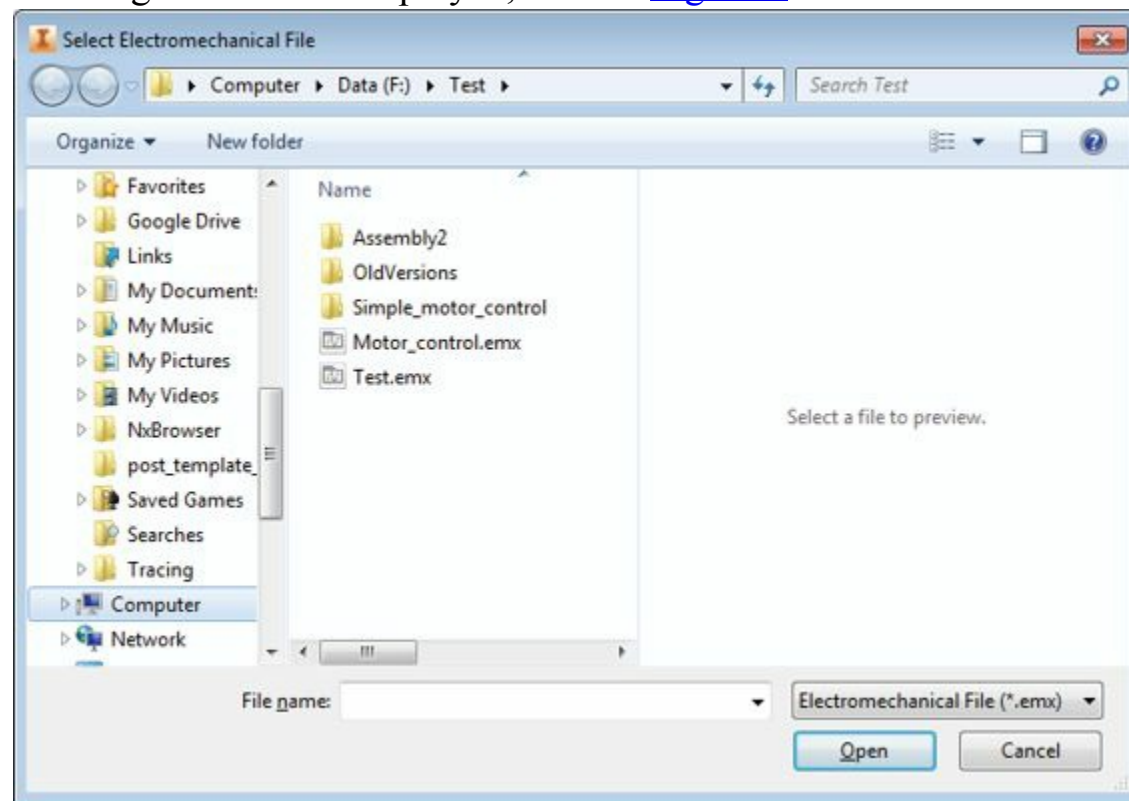

Figure-8. Select Electromechanical Link File dialog box
- After selecting the **Electromechanical Link Setup** button from the **Ribbon**, click on the **Link** button from the **Electromechanical Link Setup** dialog box. The **Select Electromechanical Link File** dialog box will be displayed; refer to Figure-8.